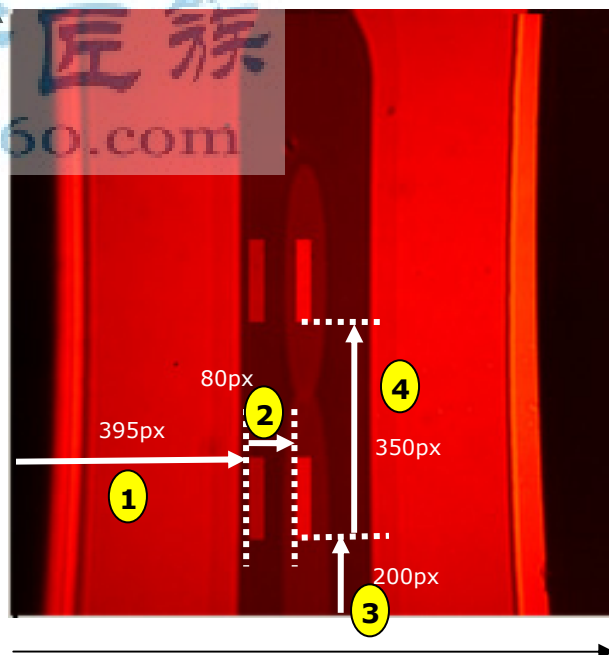

Figure 15: Spot positioning
See (1) and (2) in Figure 15. The 1st column is 395 pixel away from the right border, the 2nd column is 80px right of the 1st column.
See (3) and (4) in Figure 15. The pixel axes origin is at the bottom of the picture. The distance of the 1st row from the border is 200px, the 2nd row is 350px further.